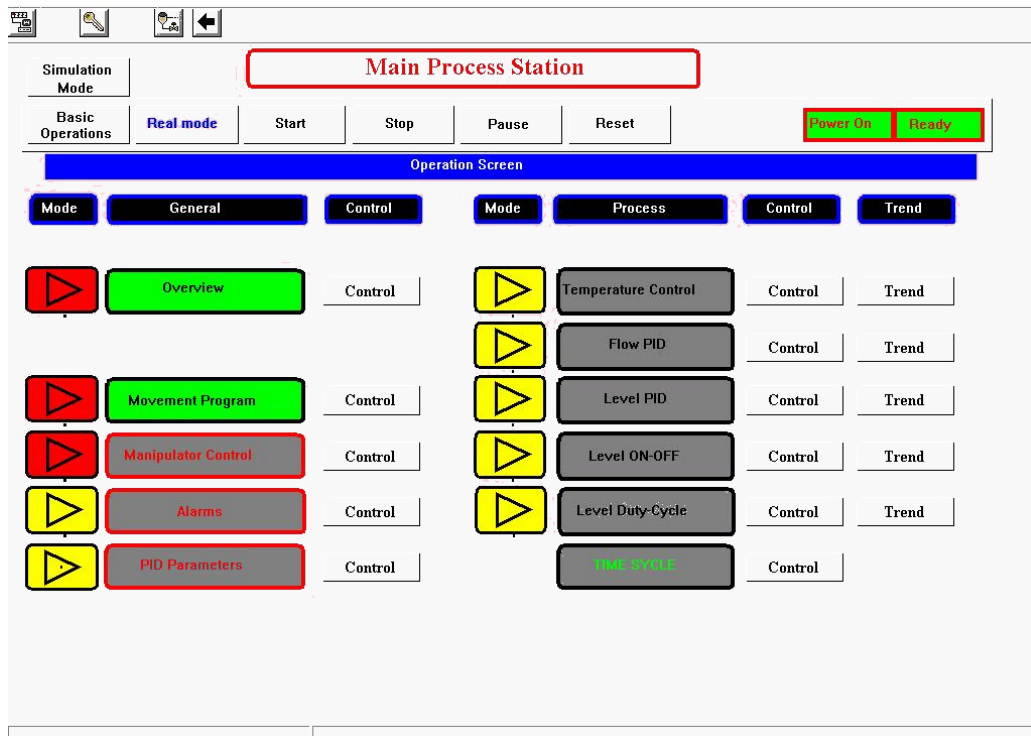

Figure 170: Main Process Station
8. Click **Restart**. The Main Process Station window (shown in Figure 170: Main Process Station) is displayed in the background. Click **Close** to close the Vuniq Application Manager window.
3. Select **Operator Screens**. The Main Process Station window is displayed, as shown in, Figure 170: Main Process Station.
8. Click the  icon to return to the Main Process Station window (shown in Figure 170: Main Process Station).